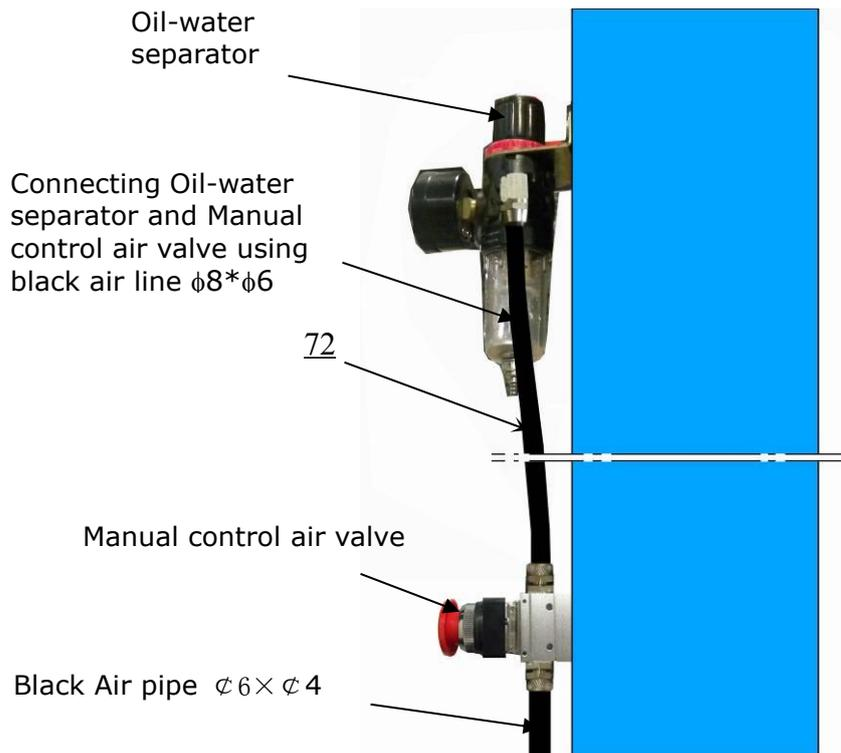

Fig. 41
4. Connecting Oil-water separator and Manual control air valve using air line (See Fig. 41).